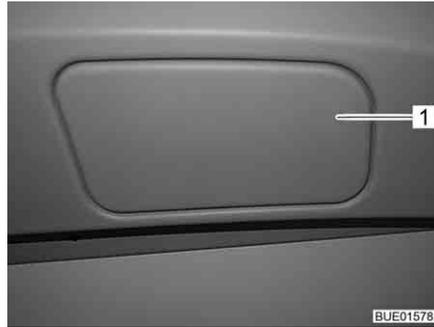

Fig. 34 Emergency release cover
- Remove the cover (Fig. 34,1) of the emergency release on the driver's cabin ceiling using a flat object (e.g. coin).